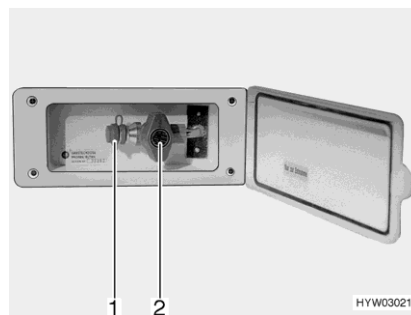

Fig. 126 External gas connection
- Connect the external gas device to the connection point (Fig. 126,1).
- Open the gas isolator tap (Fig. 126,2).